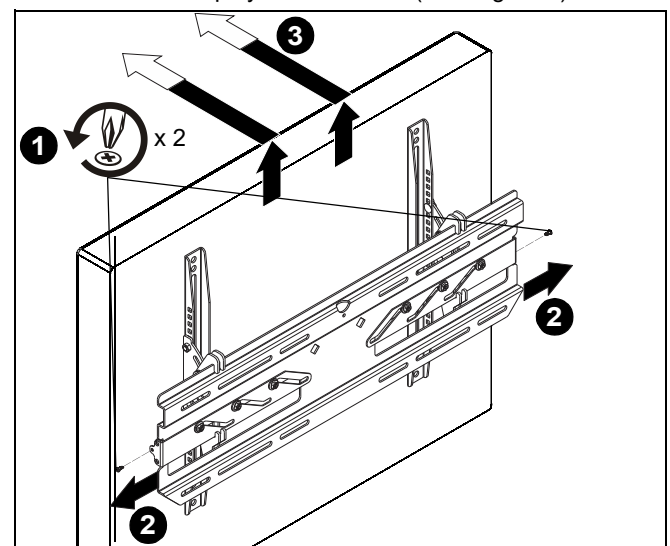

Figure 9
1. If applicable, remove the self tapping screws (not provided) and/or padlocks from both sides of the wall plate. This hardware provides security. (See Figure 9)
2. Slide the security latches out on both sides of the display from the wall plate. (See Figure 9)
3. With an assistant, lift the display up and off the wall plate to remove the display from the wall. (See Figure 9)